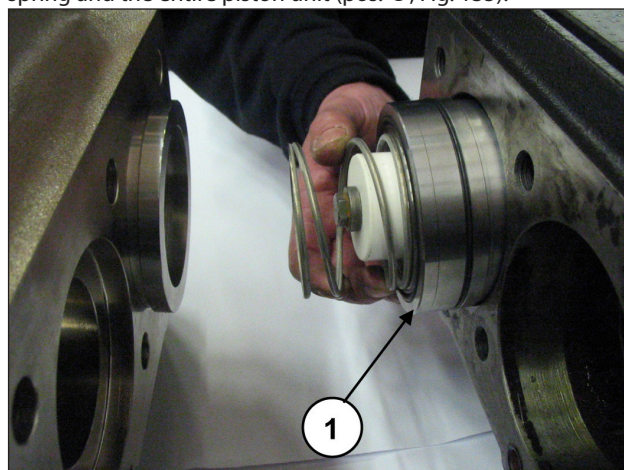

Fig. 135
Turning the shaft, have the piston guide move forward so that the buffer, moving ahead, can expel the seal support, the spring and the entire piston unit (pos. ①, Fig. 135).